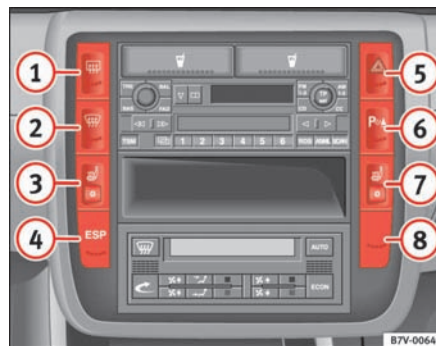

Fig. 73 Switch for hazard warning lights
2. Press button ⇒ fig. 73 to switch on the hazard warning lights ⇒ .